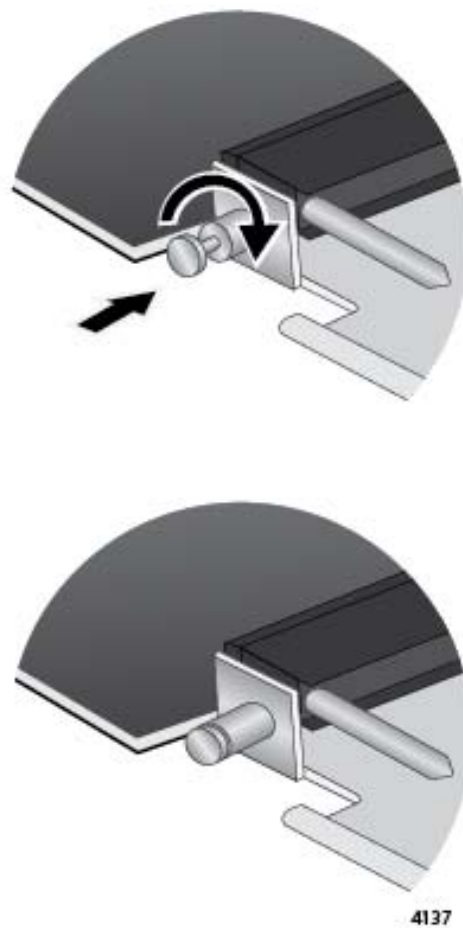

Figure 185. Releasing the Retaining Pin
11. Turn the retaining pin on the side of the card a quarter turn to release it. Refer to Figure 185 on page 294.